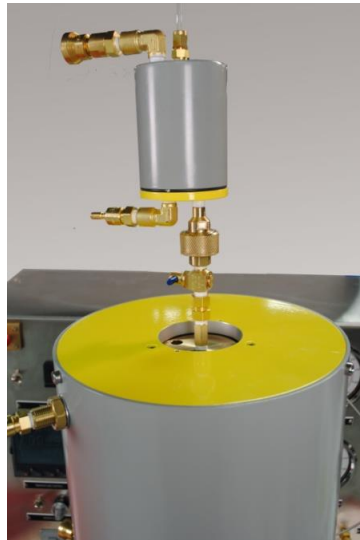

Figure 5-5 Filtrate Unit connected to the Sample Chamber
2. At 30 minutes after BHCT is reached, connect filtrate unit to sample chamber. Hand- tighten the filtrate unit. See Figure 5-5.